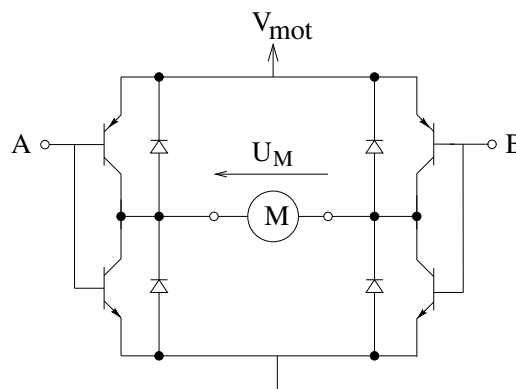

Figure 5.18: Controlling a DC motor with a H-bridge.
Since DC motors draw a high amount of current (from hundreds of mA up to several A) and may not even use the same voltage supply as the microcontroller, they cannot be directly connected to the controller. Instead, a driver circuit is required to generate the required amount of current. DC motors are generally controlled by a four-transistor circuit called a *H-bridge*, see Figure 5.18 (the circuit is greatly simplified and only shows the basic operating principle; for a practical implementation, you need free-wheeling diodes and a means to control the transistors with the microcontroller voltage levels).
**Exercise 5.9** You want to control a CPU fan with your microcontroller. How much of the H-bridge in Figure 5.18 do you need?